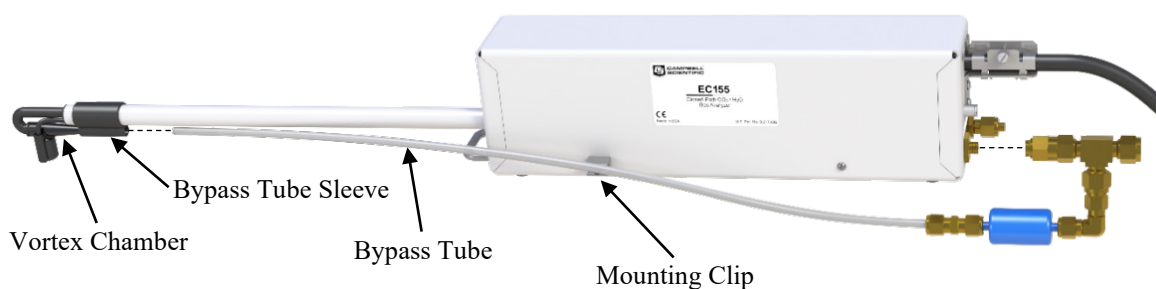

FIGURE 6-2. Exploded view of the EC155 and bypass tube and filter assembly
2. Remove the 3/8-inch Swagelok plug from the fitting labeled **Pump** at the back of the EC155 sample cell and attach the assembly's 3/8-inch Swagelok fitting as shown in FIGURE 6-2.
3. Insert the open end of the bypass tube into the open hole of the vortex's bypass tubing sleeve as shown in FIGURE 6-2. Push the tube into the sleeve about 2.5 cm until it hits the end of the vortex chamber.
4. Push the tube into the clip on the side of the sample cell to hold it securely in place as shown in FIGURE 6-2.